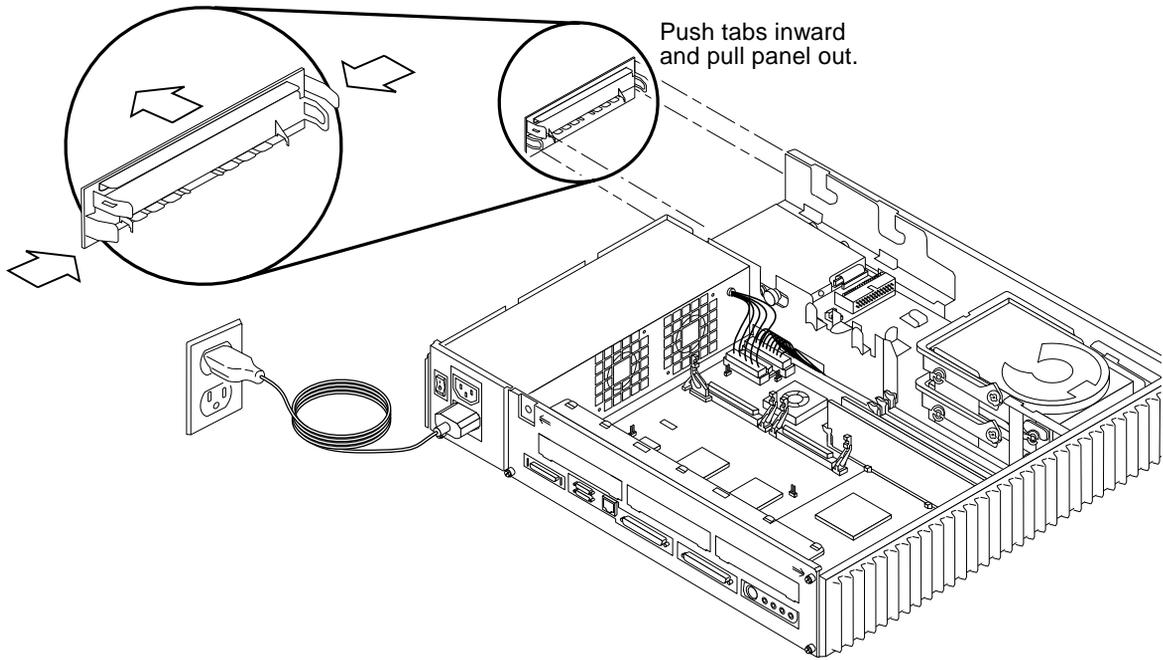

FIGURE 9-8 Removing the CD-ROM Filler Panel
3. If the CD-ROM drive is not installed, remove the CD-ROM filler panel as shown in FIGURE 9-8. If the CD-ROM drive is installed, remove it.
- 4. Remove the diskette drive filler panel (if present) in the same way as you remove the CD-ROM filler panel, as shown in FIGURE 9-8. If the diskette drive is installed, push the diskette drive toward the center of the chassis to disengage it.**
See FIGURE 9-8. If you need to install the CD-ROM drive, see Section 9.2.2 “Replacing the CD-ROM Drive.”